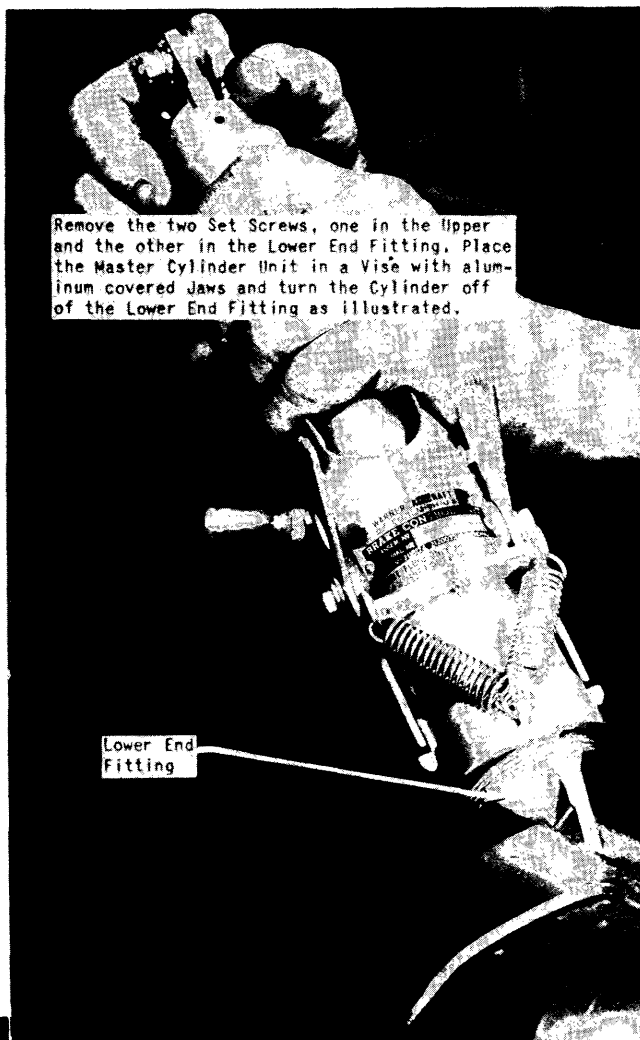

Figure 199 - Removing Lower End Fitting
(3) Place the cylinder in a vise with aluminum covered jaws (figure 199) and turn off the lower end fitting.